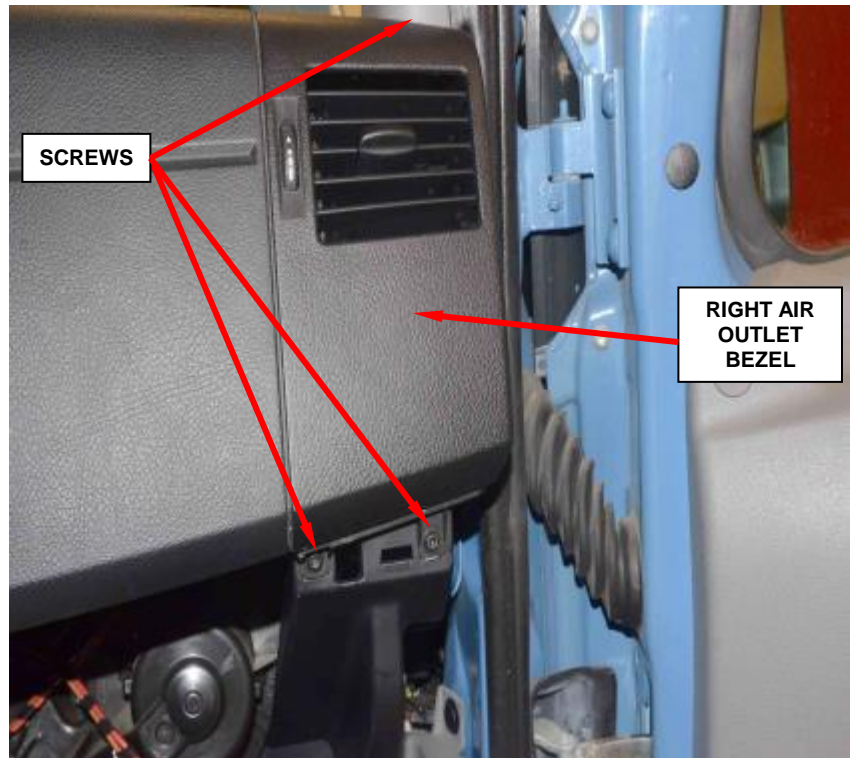

Figure 149 – Right Air Outlet Bezel
10. Remove and save the three right side air outlet bezel screws and remove the right air outlet bezel (Figure 149).